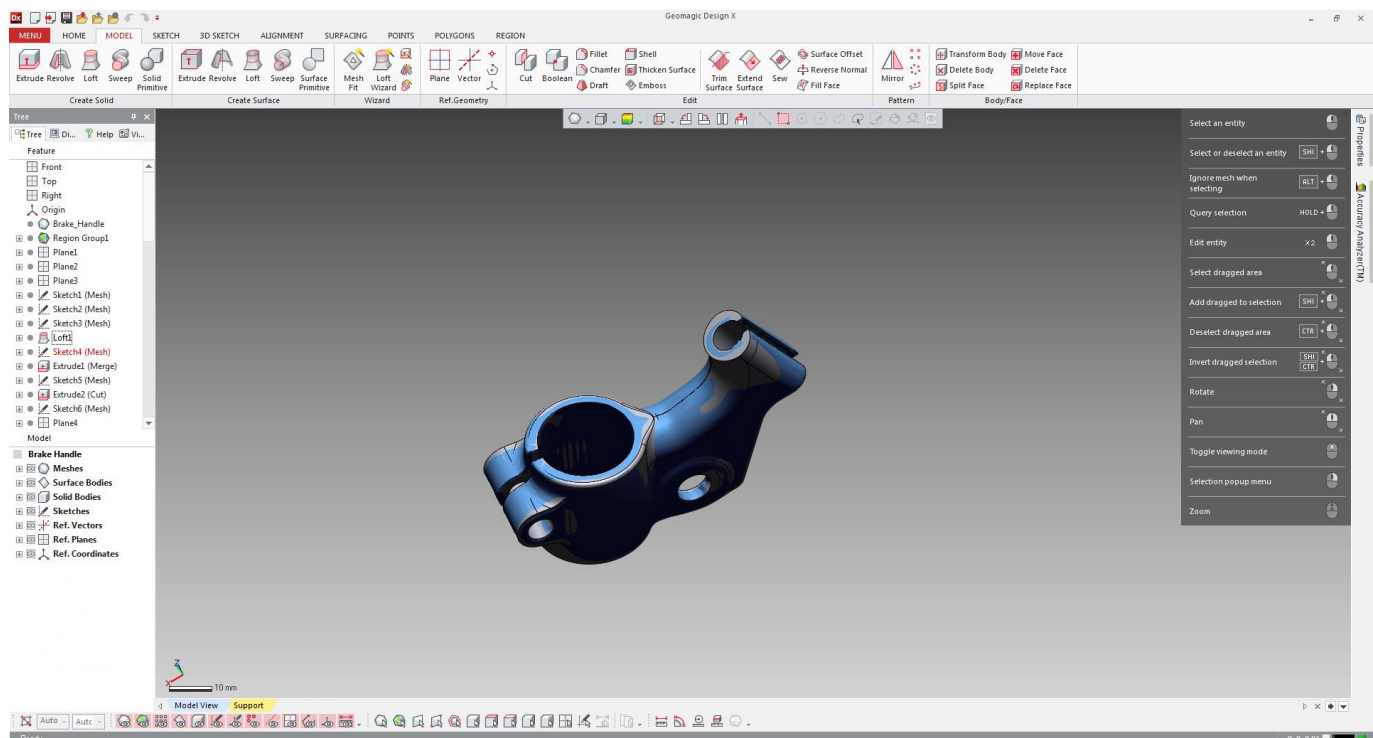

Figure 1 – Graphical User Interface
2. From the **Desktop**, double-click the **Geomagic Design X** icon to start the application. The application will start as shown in **Figure 1**.